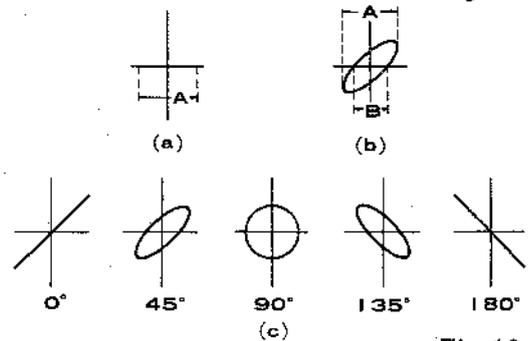

Fig. 19
2. Feed input signal to the INPUT TERMINALS "2" and obtain a horizontal pattern shown in (a) of Fig. 19.
5. The CRT screen will show a Lissajous pattern shown in (c) of Fig. 19.